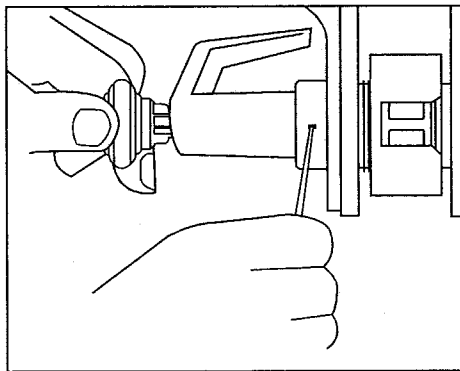

FIG. 8 TO REVERSE HANDING-LEVERS:
1. Remove outside lever. See Page 6, Fig. 8.